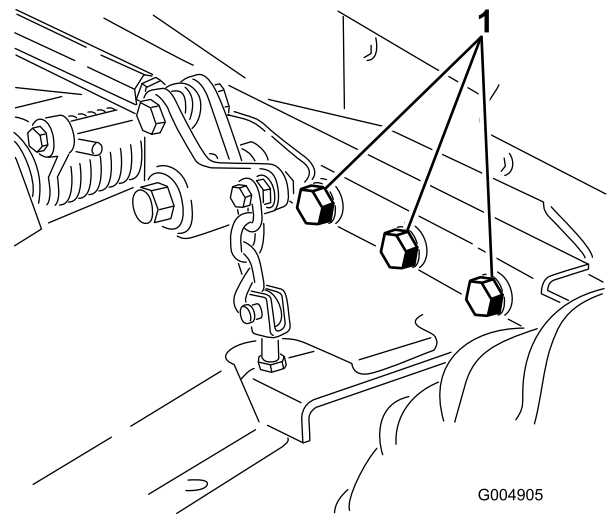

Figure 58
5. Check all fasteners for looseness and tighten them as necessary. Torque the 6 bolts securing the mower deck frame to the traction unit (Figure 58) to 359 N·m (265 ft-lb).